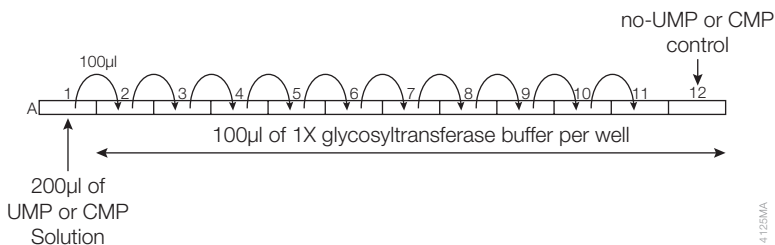

Figure 6. Dilution scheme for creating a UMP or CMP standard curve.
3. Perform a serial twofold dilution as shown in Figure 6 by transferring 100 μ l from well A1 to well A2, pipetting to mix. Transfer 100 μ l from well A2 to well A3, pipetting to mix. Repeat for wells A4 through A11. Discard the extra 100 μ l from well A11. Do not add UMP or CMP to the no-UMP/CMP control reactions in well A12.